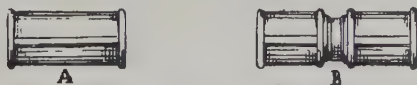

FIG. 112.
ends have to be joined, a "loose collar" (A), or double socket (B), as in Fig. 112, is employed. A cast-iron pipe is easily cut by nicking it all round with the corner of a flat or triangular file, going a full $\frac{1}{8}$ in. deep. Then with a cold chisel and hammer go all round in the nick, striking smartly but not too heavily, and it will presently crack off at the "nick." Pipes of the best quality cut more easily than common or cheap ones, which are usually made of very hard and imperfectly smelted metal. A tool known as a pipe-cutter is used by fitters, and saves a great deal of time and labour. It consists of five or six hard steel discs or wheels, with cutting edges, carried in a kind of short steel chain, with double links, and a handle and thumb-screw to tighten it up. The chain and wheels are passed round the pipe, hitched and tightened up and then worked round several times by means of the lever, tightening up the wheels occasionally so as to keep them cutting. When a good deep cut has been made the cutter is taken off, and a few taps with the hammer and chisel causes the pipe to drop apart.